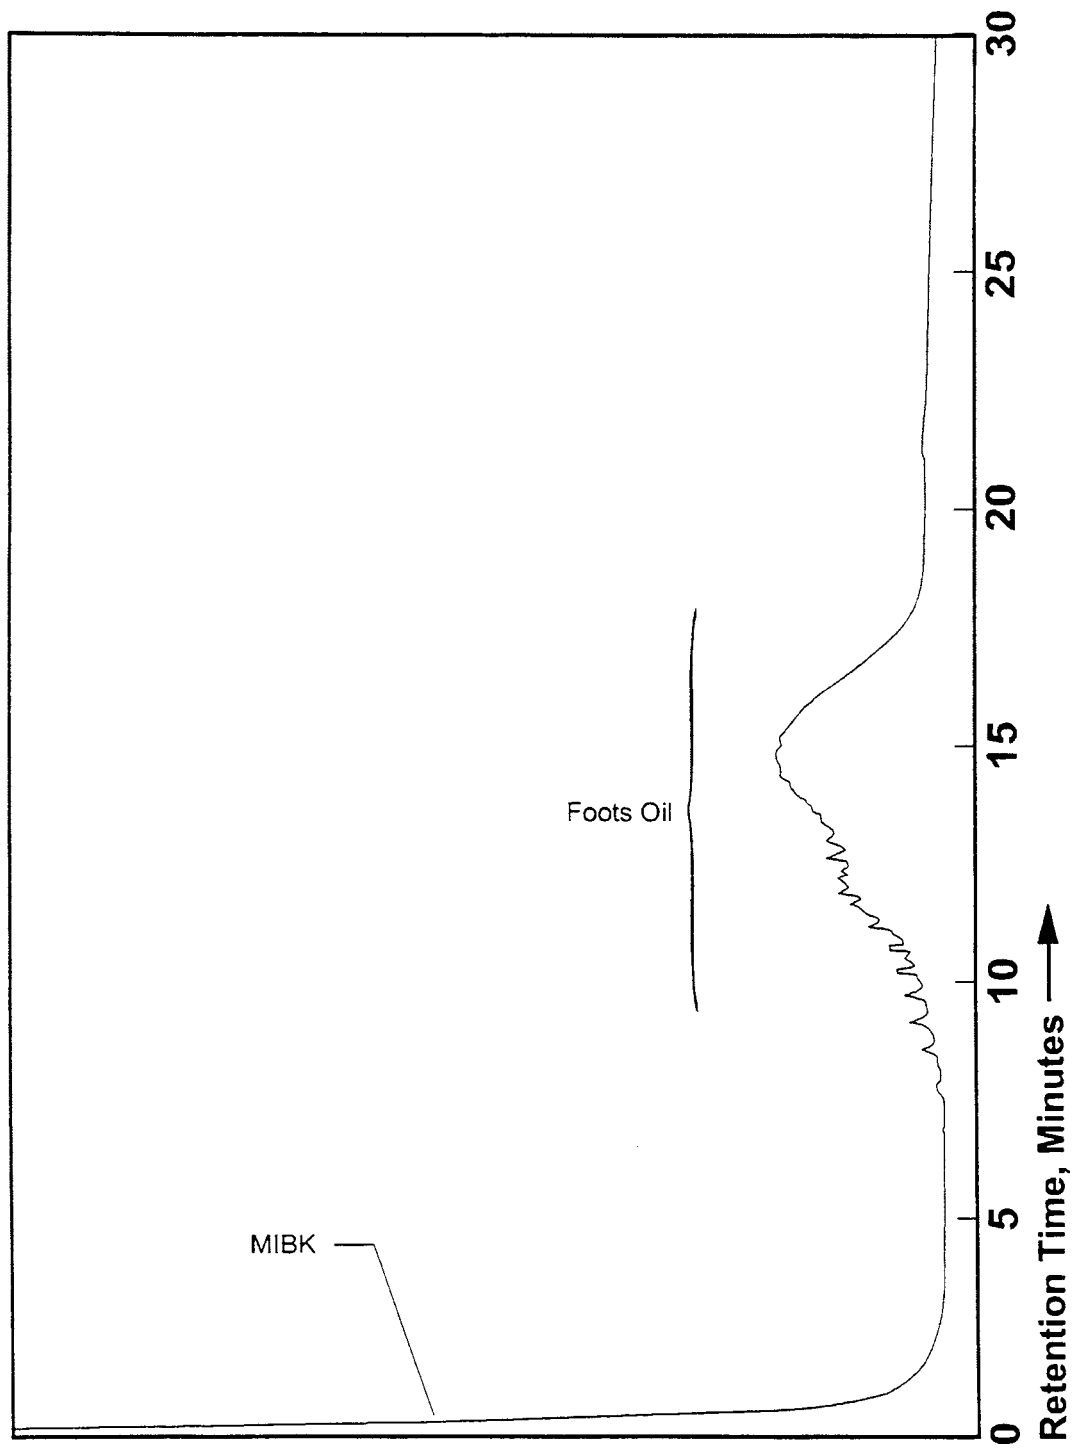

Figure 1
- Other conditions may be used provided they produce the required sensitivity and chromatographic separations equivalent to those shown in the Typical Chromatogram, Fig. 1.
9. Identify the foots oil peak profile and measure the total area of the foots oil peak profile using the Typical Chromatograms as a guide, Figs. 1 and 2.
3. Identify the foots oil peak composite profile and measure the peak composite area using Typical Chromatograms as a guide, Figs. 1 and 2.